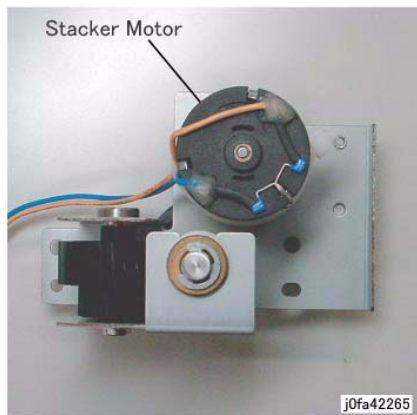

Figure 5 Installing the Stacker Motor
2. Install the Stacker Motor as shown in Figure 5.